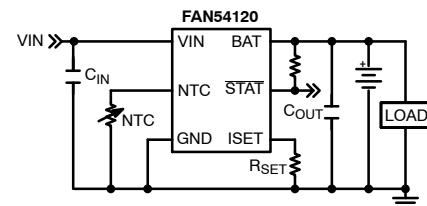

Figure 1. Typical Application
NOTE: The Recommended Operating Conditions table defines the conditions for actual device operation using the circuit of Figure 1, with the Recommended External Components shown in Table 2. Recommended operating conditions are specified to ensure optimal performance to the datasheet specifications. On Semiconductor does not recommend exceeding them or designing to the Absolute Maximum Ratings.
**Table 7. ELECTRICAL CHARACTERISTICS** (Unless otherwise specified, circuit of Figure 1 with VIN = 5.0 V, VFLOAT = 4.2 V, VBAT = 3.9 V, RSET = 1.0 kΩ, over recommended TA operating temperature range. Typical values are at 25°C.)
**Table 7. ELECTRICAL CHARACTERISTICS** (Unless otherwise specified, circuit of Figure 1 with  $V_{IN} = 5.0\text{ V}$ ,  $V_{FLOAT} = 4.2\text{ V}$ ,  $V_{BAT} = 3.9\text{ V}$ ,  $R_{SET} = 1.0\text{ k}\Omega$ , over recommended  $T_A$  operating temperature range. Typical values are at  $25^\circ\text{C}$ .) (continued)